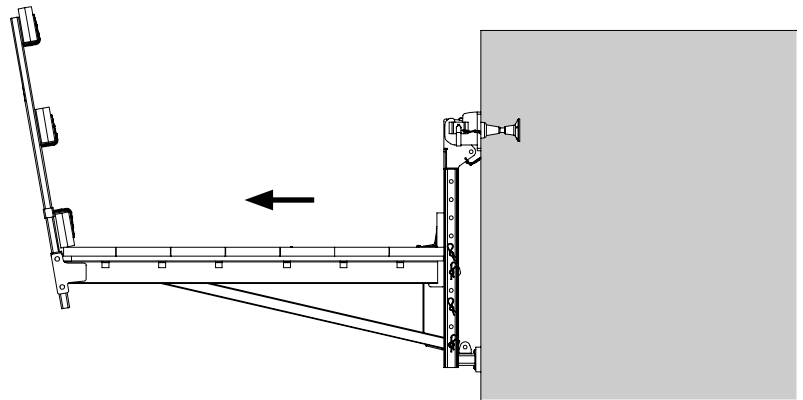

Fig. C3.07
- Dismantle and remove the platform unit. (Fig. C3.07)